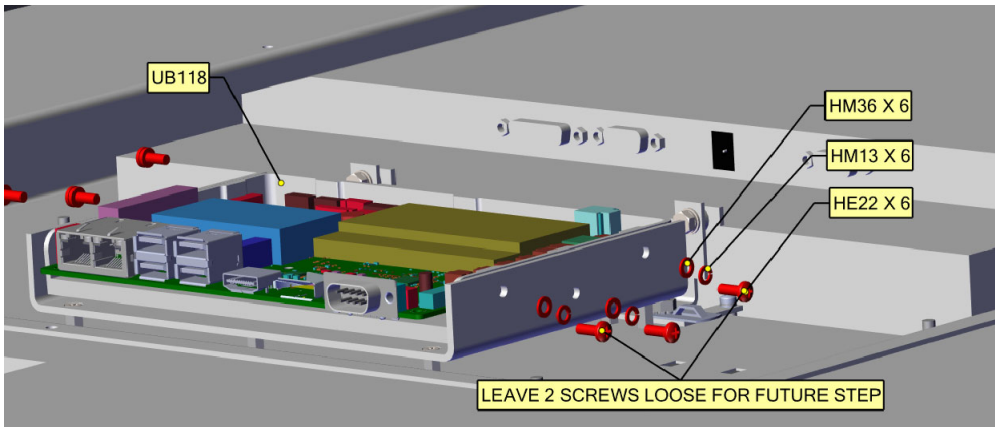

Figure 6: SBC installation
- (k) Install the new SBC (Nautel part # UB118) to the SBC Mounting Bracket using the six (6) sets of 6-32 hardware. Leave the two indicated screws loose for SSD installation in step (m). See Figure 6.